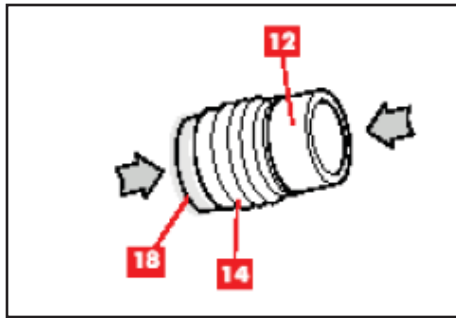

Figure 27 —Insert the dust boots on the piston
25. Insert the dust boots (14) on the pistons (12) (see Fig. 27).